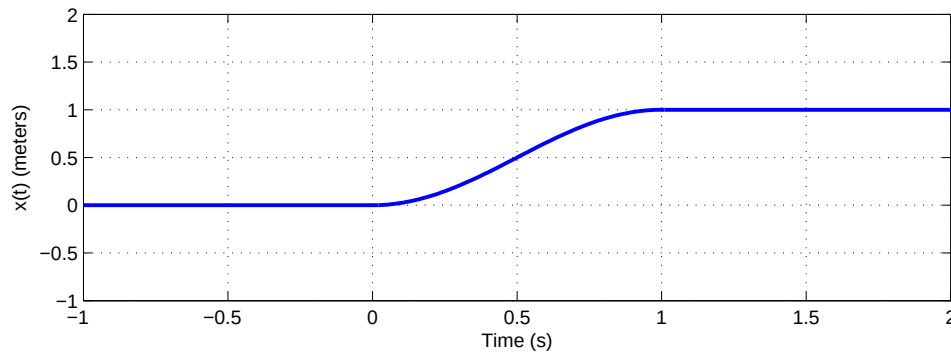

Figure 2: $x(t)$ for Problem 4.
3.4 Zero-Moment Point (ZMP) trajectories over time. Assume the center of mass of a cart-table “robot” remains at a constant height of $z_c = 0.98$ meters and that it moves from $x = 0$ to $x = 1$ smoothly as shown in Figure 2, so that: